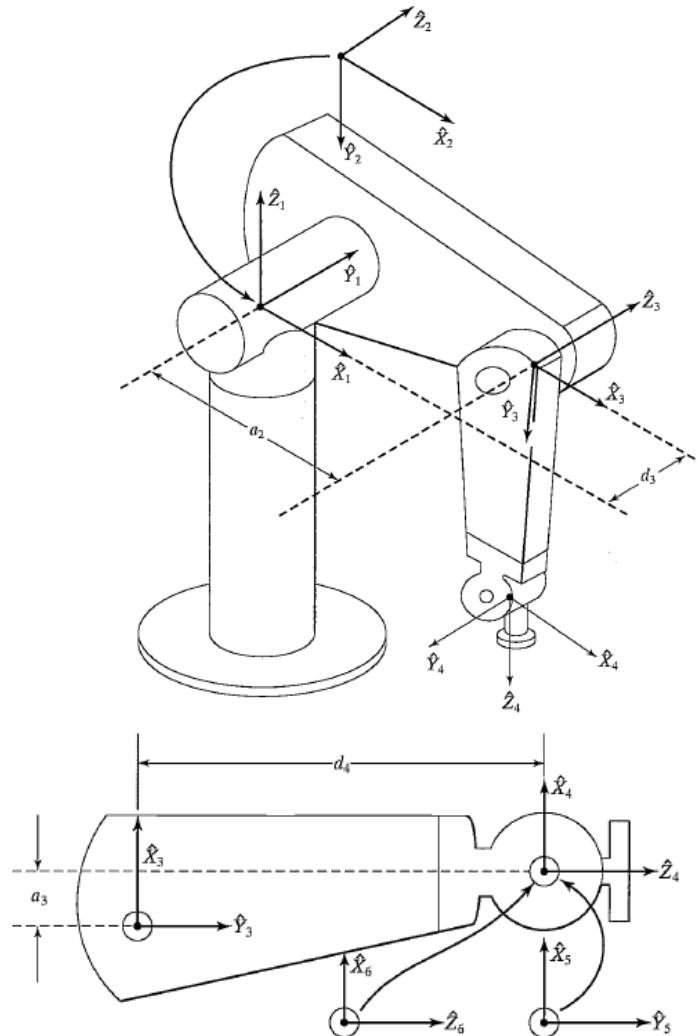

Figure Q.5A
- 5A. Define pictorially the four parameters in a D-H Table. Calculate the D-H Table for the PUMA 560 as shown in Figure Q.5A and derive the forward kinematics for the same.(Assume various parameters). **07**